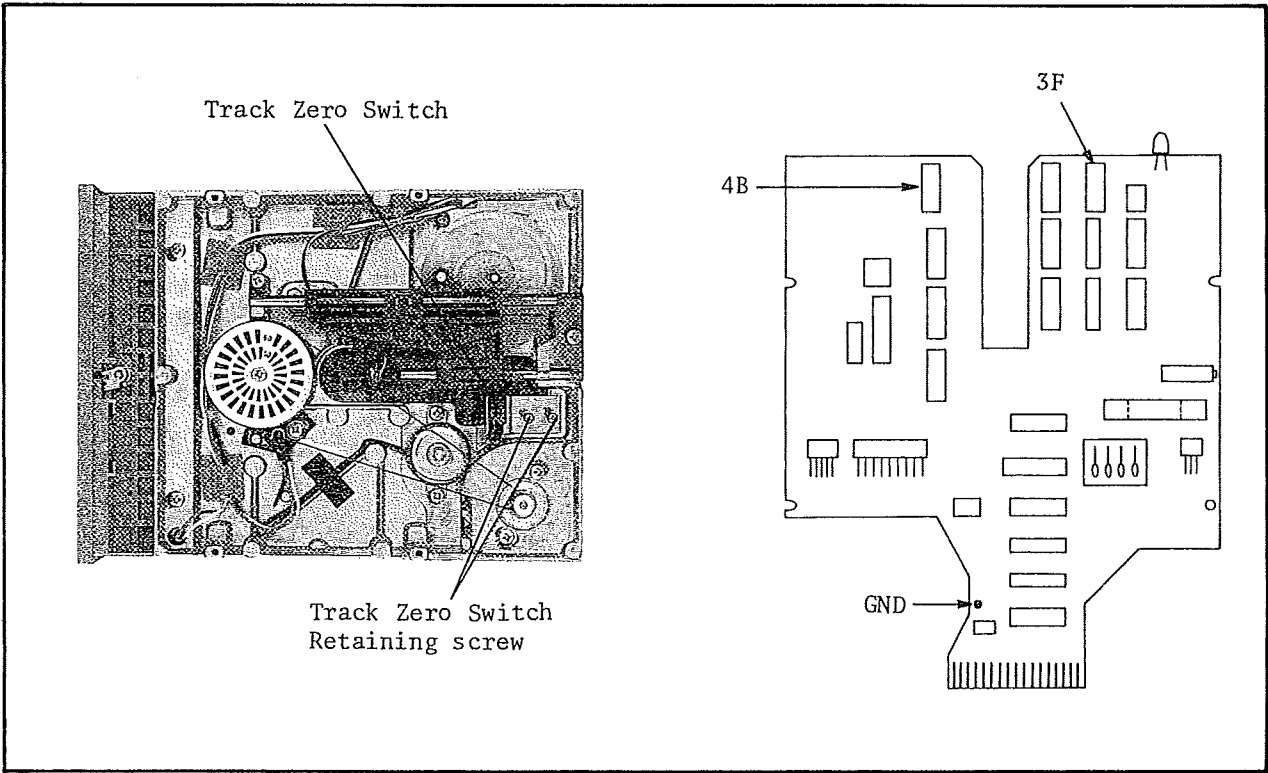

Figure 5-34. Check/Adjustment Point Locations.
2. Connect channel A input to 3F pin 3, and channel B input to 4B pin 5 (see Figure 5-34 for the locations).
9. Loosen the retaining screws of the track zero switch (see Figure 5-34 for the location), and adjust the track zero switch manually until it switches between track 02 and track 03 when the Read/Write Head moves towards track 39, and between track 03 and 01 when the Read/Write head moves towards track 00.